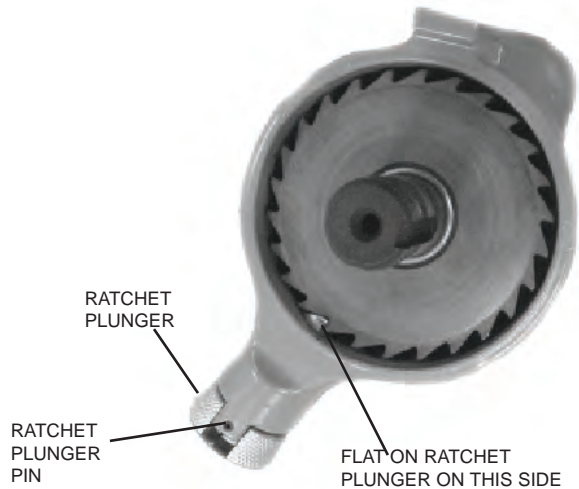

Figure 8. Ratchet and Ratchet Plunger Assembly
- B. Check Bushing in Ratchet (640-124) to be sure it is flush or below the surface of the Ratchet on both sides. Assemble Ratchet with Ratchet Teeth facing as showing in Fig. 8.